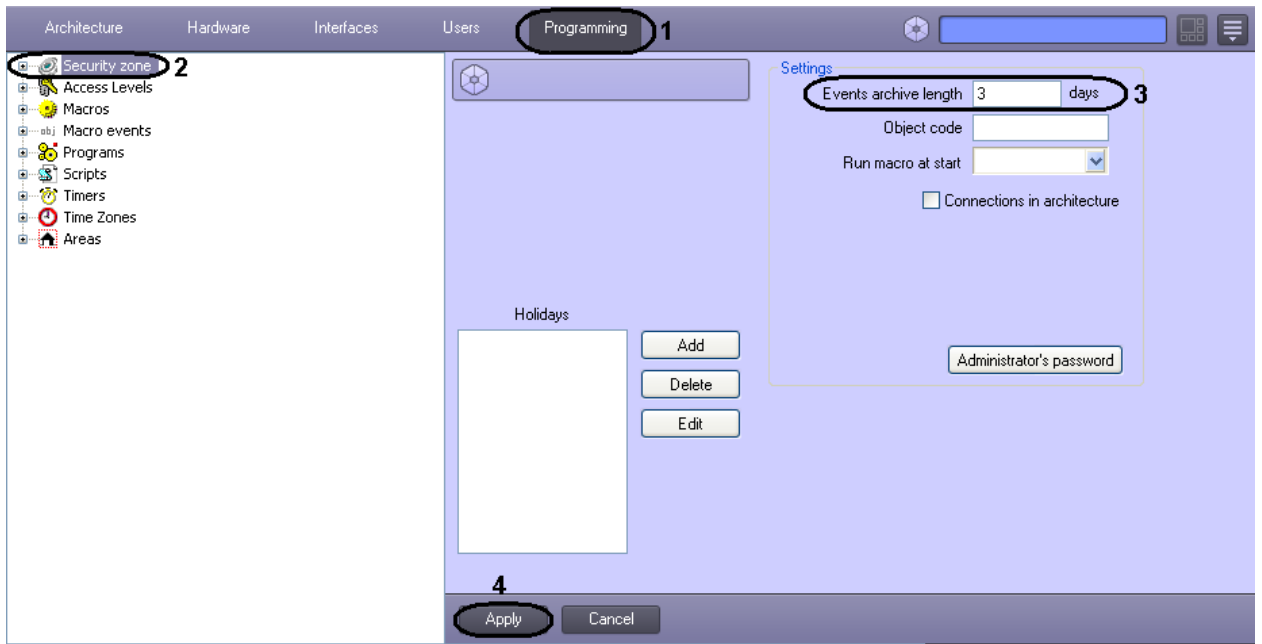

Fig. 6.5—1 Configuring the events archive length
1. Go to the **Programming** tab of **System settings** dialog box (Fig. 6.5—1, 1).
2. Go to the **Security zone** object's settings panel (Fig. 6.5—1, 2).
3. Enter the period of events storage in the database in the **Events archive length \_\_\_ days** field (Fig. 6.5—1, 3). For example, specify the archive storage period equal to 30 days.
4. Click the **Apply** button (Fig. 6.5—1, 4).